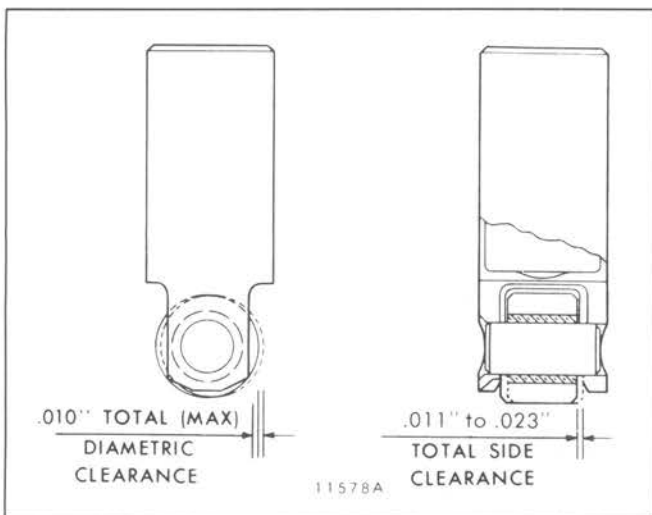

Fig. 5 - Cam Roller Clearances
Measure the total diametric clearance and side clearance. Install a new roller and pin if the clearances exceed those specified in Fig. 5.
5. Remove the cam follower from the fixture and check the side clearance (Fig. 5). The clearance must be .011" to .023".